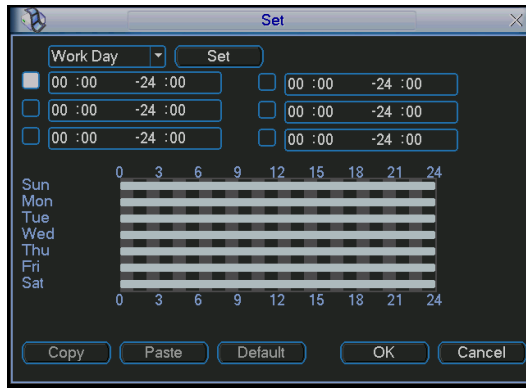
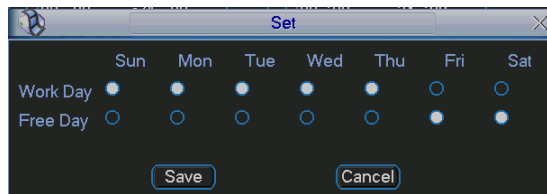

Figure 4-18
Figure 4-19
- Period: Click set button, you can see an interface is shown as in Figure 4-18. Here you can set for business day and non-business day. In Figure 4-18, click set button, you can see an interface is shown as in Figure 4-19. Here you can set your own setup for business day and non-business day.